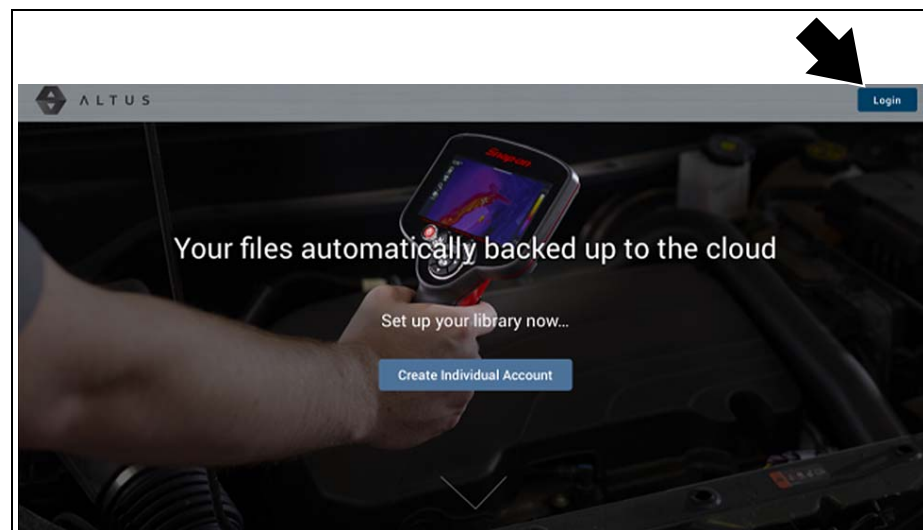

Figure 12-4
2. Select the **Login** icon (Figure 12-4).